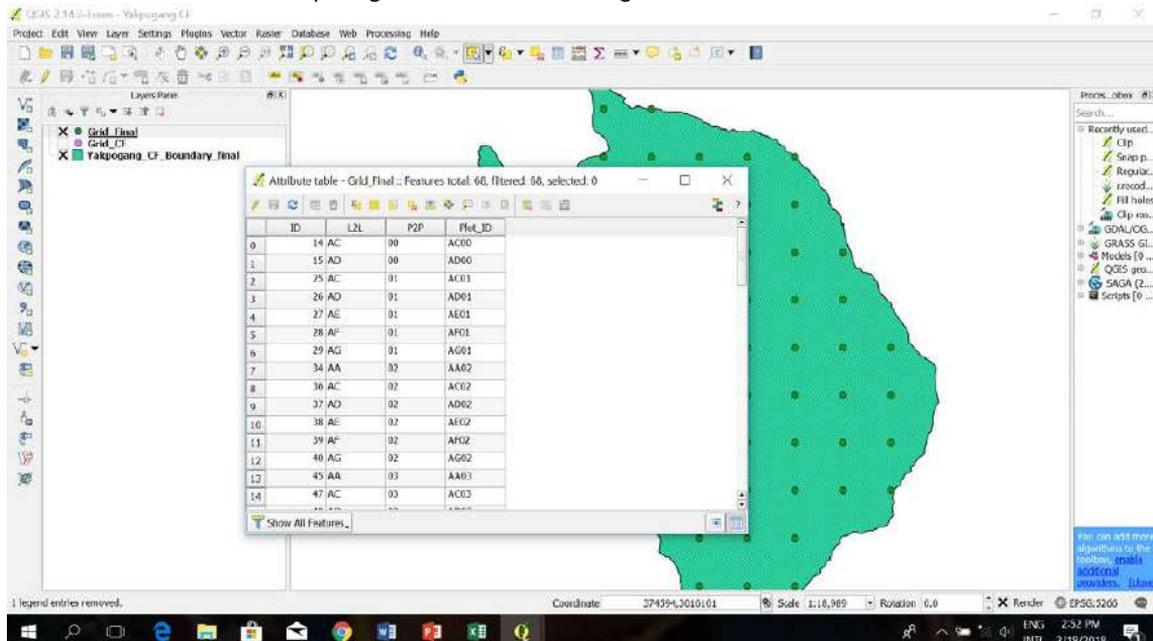

Figure 10f
- The Plot IDs for individual plots generated as shown in Figure 10f.